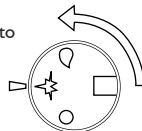

Figure 1
- Push gas valve control knob in and turn to pilot position (*see figure 1*).